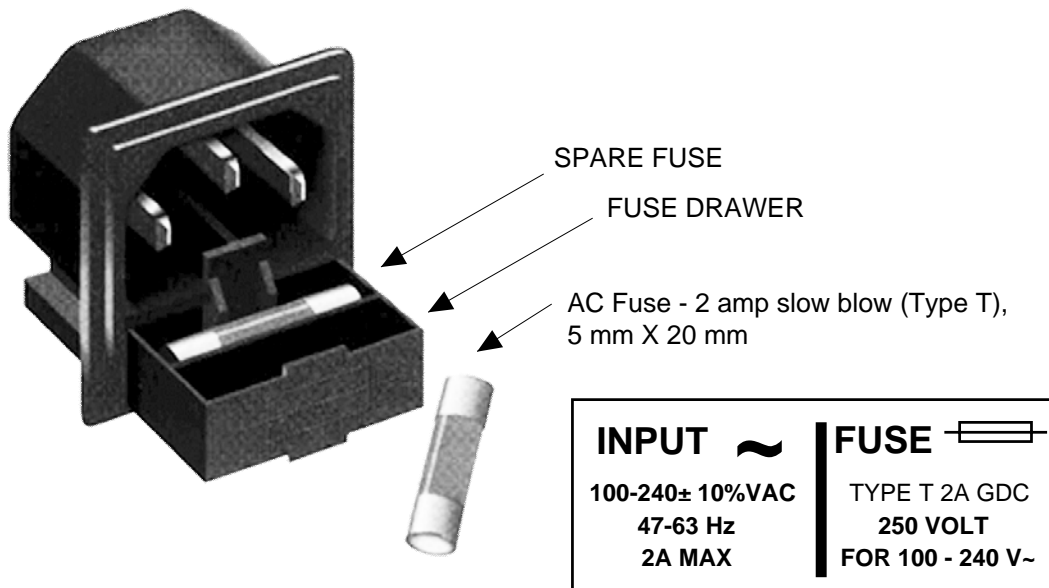

FIGURE 2.4 Fuse Location and Spare Fuse
6. **AC Fuse** - The fuse is a 5 mm X 20 mm, 2 amp slow blow (Type T) and is inserted in the far slot in the drawer below the AC input as shown in Figure 2.4. There is a spare fuse in the near slot.